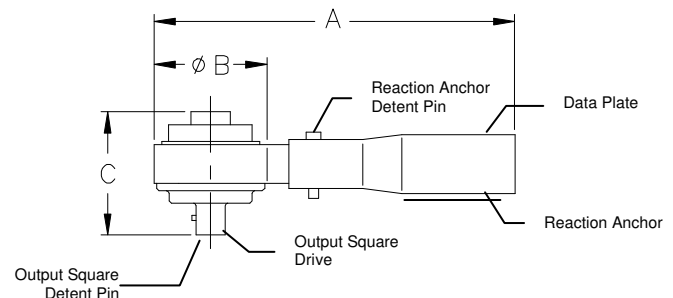

Figure 1. Torque Multiplier Parts and Dimensions
- **Do not** hold torque multiplier or reaction anchor tube (Fig. 1, Item 2) while applying torque since normal multiplier deflection might cause fingers to be pinched; especially in confined locations.
- 5.1 Mount the proper size square female drive socket onto the torque multiplier's output square drive (See Figure 1), then position socket and torque multiplier on the fastener to be tightened.